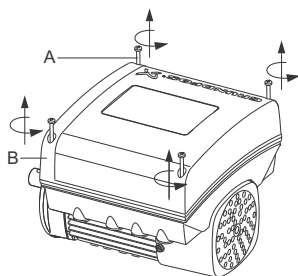

Fig. 56 Removing the terminal box cover
1. Loosen the four screws (fig. 56, A) and remove the terminal box cover (fig. 56, B).
- Fit the terminal box cover (fig. 56, B) and cross-tighten the four mounting screws (fig. 56, A) to 6 Nm.